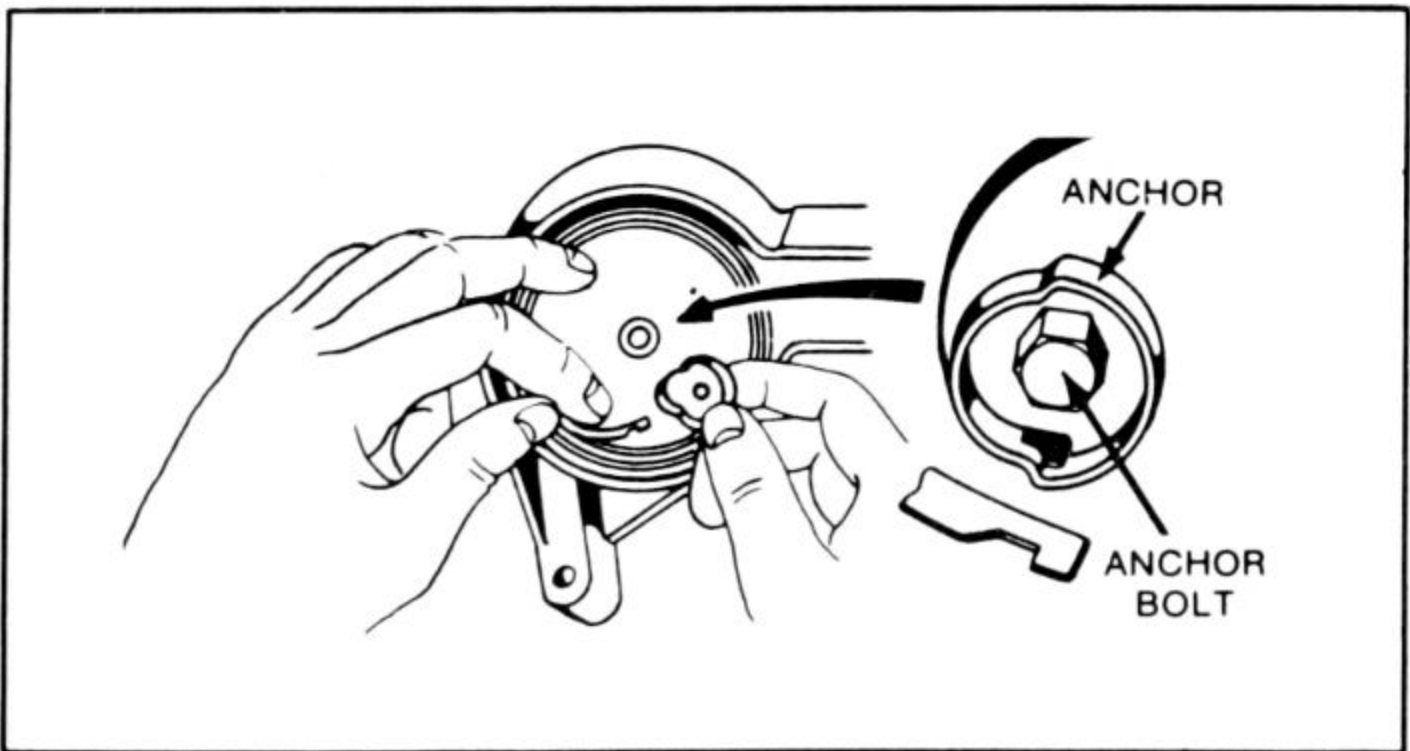

Fig. 4-20. Mainspring anchor bolt must be torqued 75-90 inch-pound and can be further secured with thread adhesive.
4. Remove the spring anchor bolt and spring anchor (Fig. 4-20). If the mainspring is to be replaced, carefully extract it from the housing, working from center coil outward. Note the spring lay for future reference.